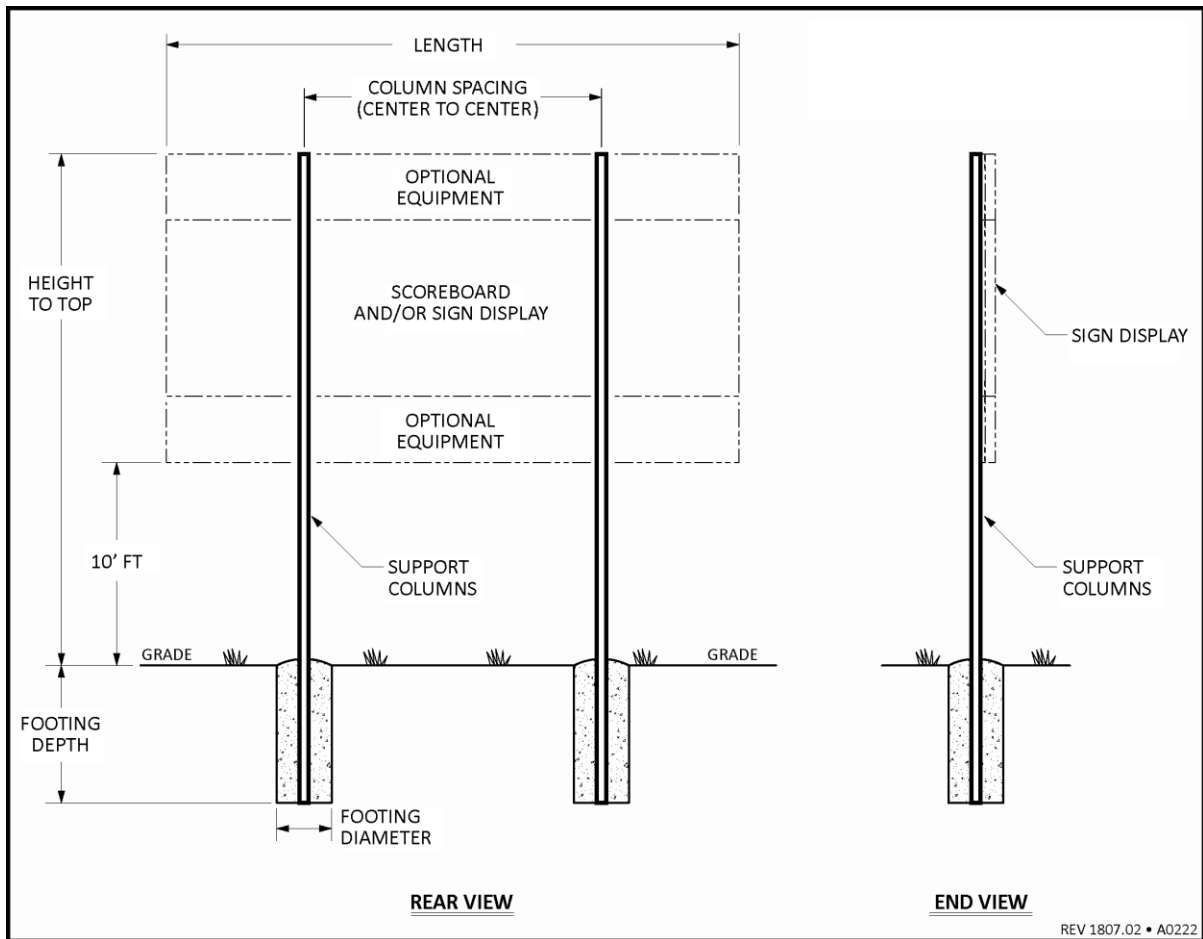

FIGURE 2 — TYPICAL SUPPORT COLUMN STRUCTURE
- The sports display is usually mounted on support columns (Figure 2 below), spaced and sized as shown on Table 1 below.